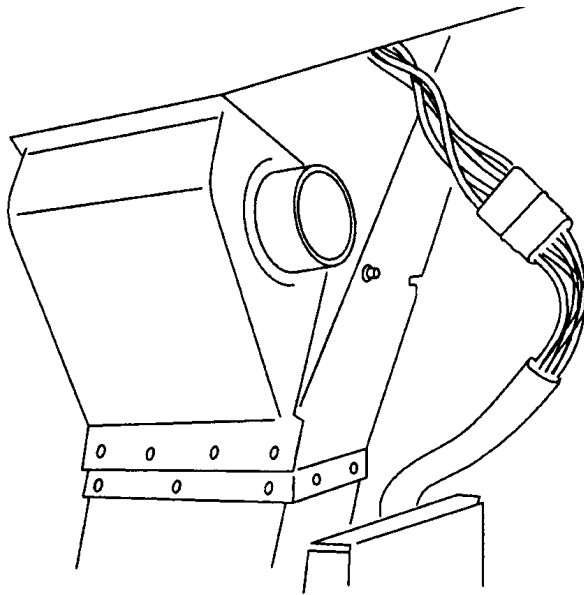

Figure 18 Blend-Air Electrical Harness and Cab Harness Behind Kick Panel
7. Disconnect the Blend-Air unit electrical harness from the cab harness located behind the kick panel (Figure 18).
1. Connect electrical wiring harness to the cab harness in the area of the passenger side kick panel (Figure 18).